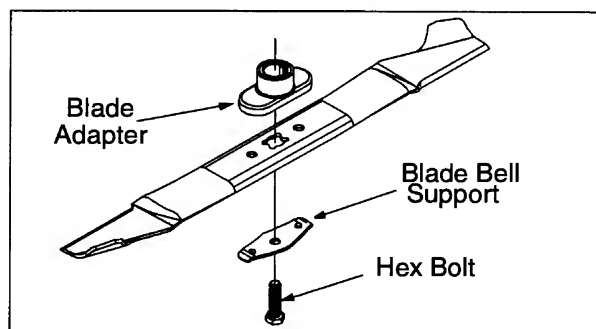

Figure 9
To resolve the above problems, rotate the adjustment wheel with your fingers: clockwise to tighten the cable and counter-clockwise to loosen the cable. See Figure 9.
- Be sure to install the blade with the side of the blade marked "Bottom" (or with part number) facing the ground when the mower is in the operating position. See Figure 9.